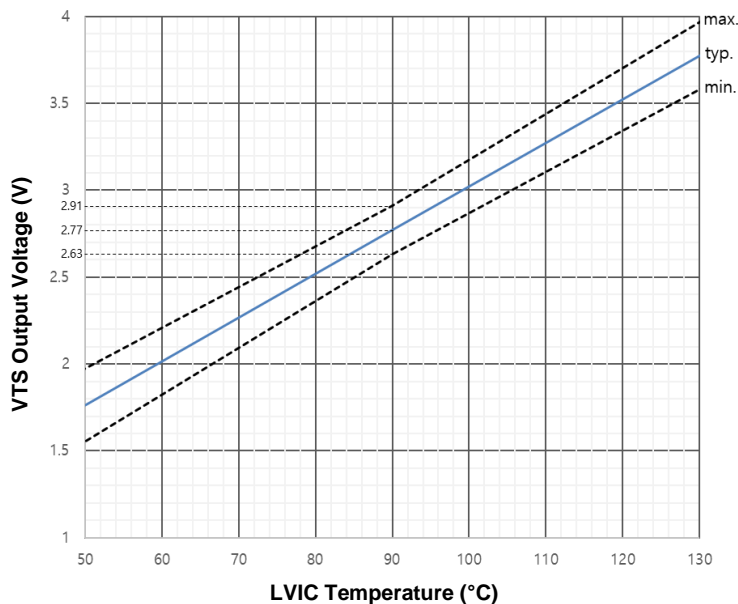

Figure 5. Temperature Profile of VOT
- T_{LVIC} is LVIC temperature and VOT is only for sensing temperature of LVIC and cannot shutdown IGBTs automatically. The relationship between VOT voltage output and LVIC temperature is described in Figure 5. It is recommended to add a ceramic capacitor of 10 nF or more between VOT and VSS (Signal Ground) to make the VOT more stable. Refer to the application note for this products about usage of VOT.